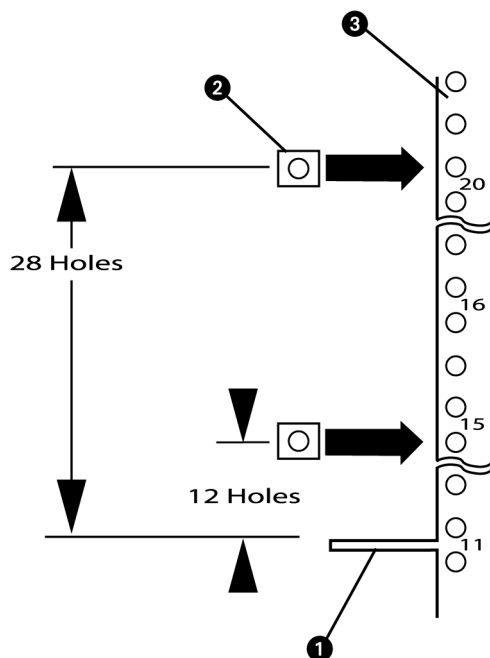

Figure 22: Preparing the rear rack columns
2. Prepare the rear rack columns, as shown in Figure 22:
- a. Standing at the back of the rack, count up from the top of the rail tray (❶) to 12th and 28th on the rack's back face.
- b. Slide a sheet metal nut (❷) on each of the located holes.